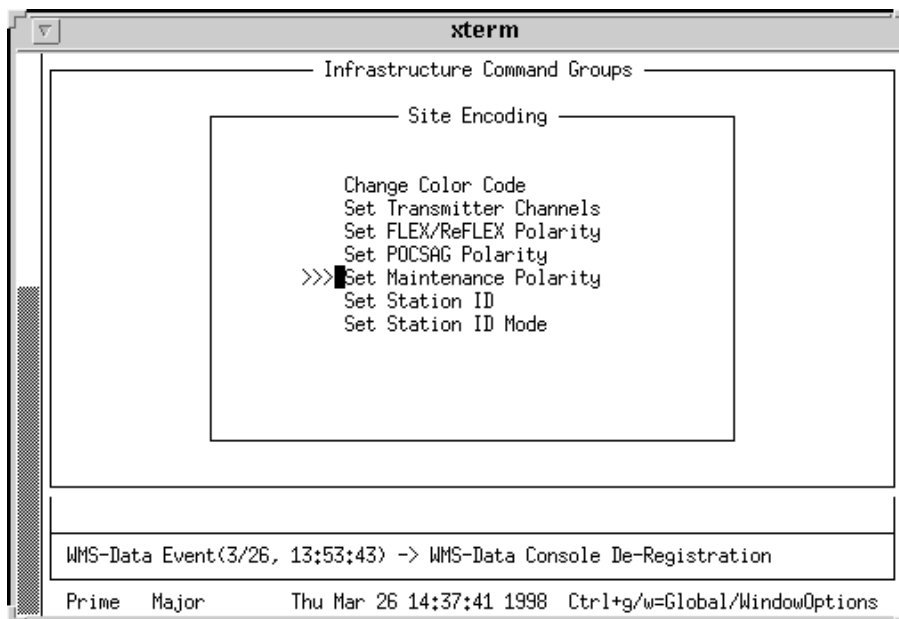

Figure 7-12: Infrastructure Command Groups—Set Maintenance Polarity
1. From the Site Encoding screen, use the <tab> to position the cursor to the left of the listing Set Maintenance Polarity and press: <Return> (see Figure 7-12).